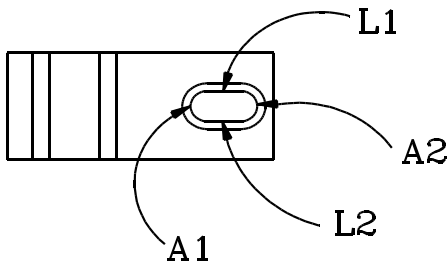

Figure 10
33. Click on SELECT, then click on A1, A2, L1, and L2 (the .25R arcs and the lines connecting them). (See Figure 10.)